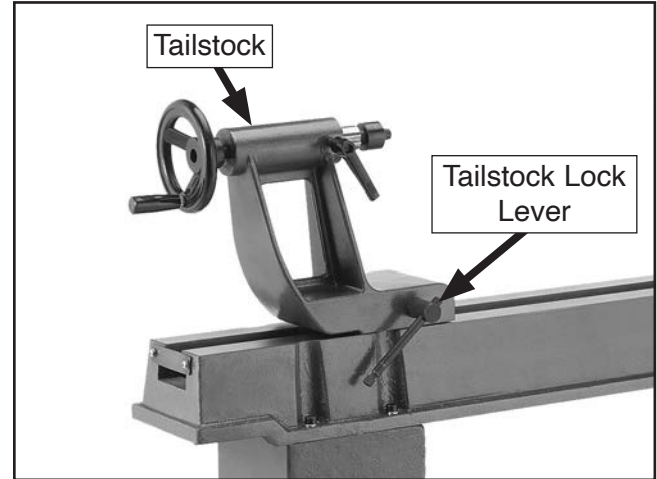

Figure 10. Tailstock positioned at end of bed.
3. Loosen tailstock lock lever, slide tailstock to end of lathe bed opposite headstock, as shown in **Figure 10**, then tighten lock lever.